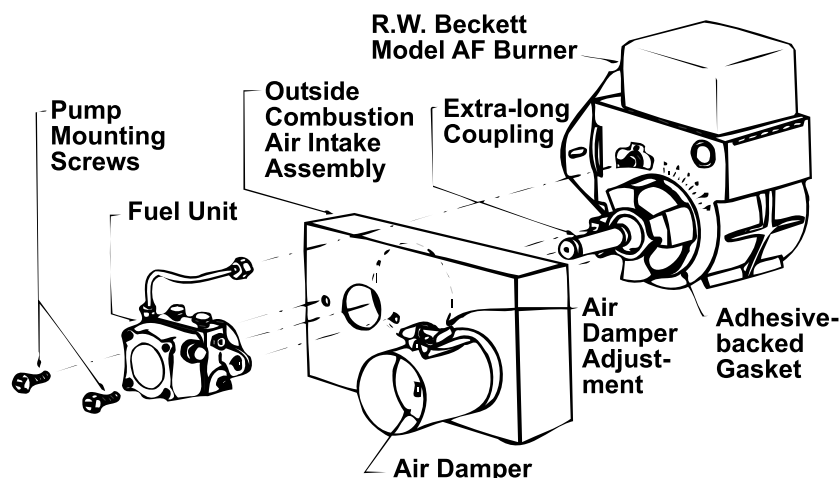

Figure 11. Outside Combustion Air Intake Adapter Kit (Option DE1)
- See Figure 11 for installation and follow the manufacturer's instructions furnished with the kit.